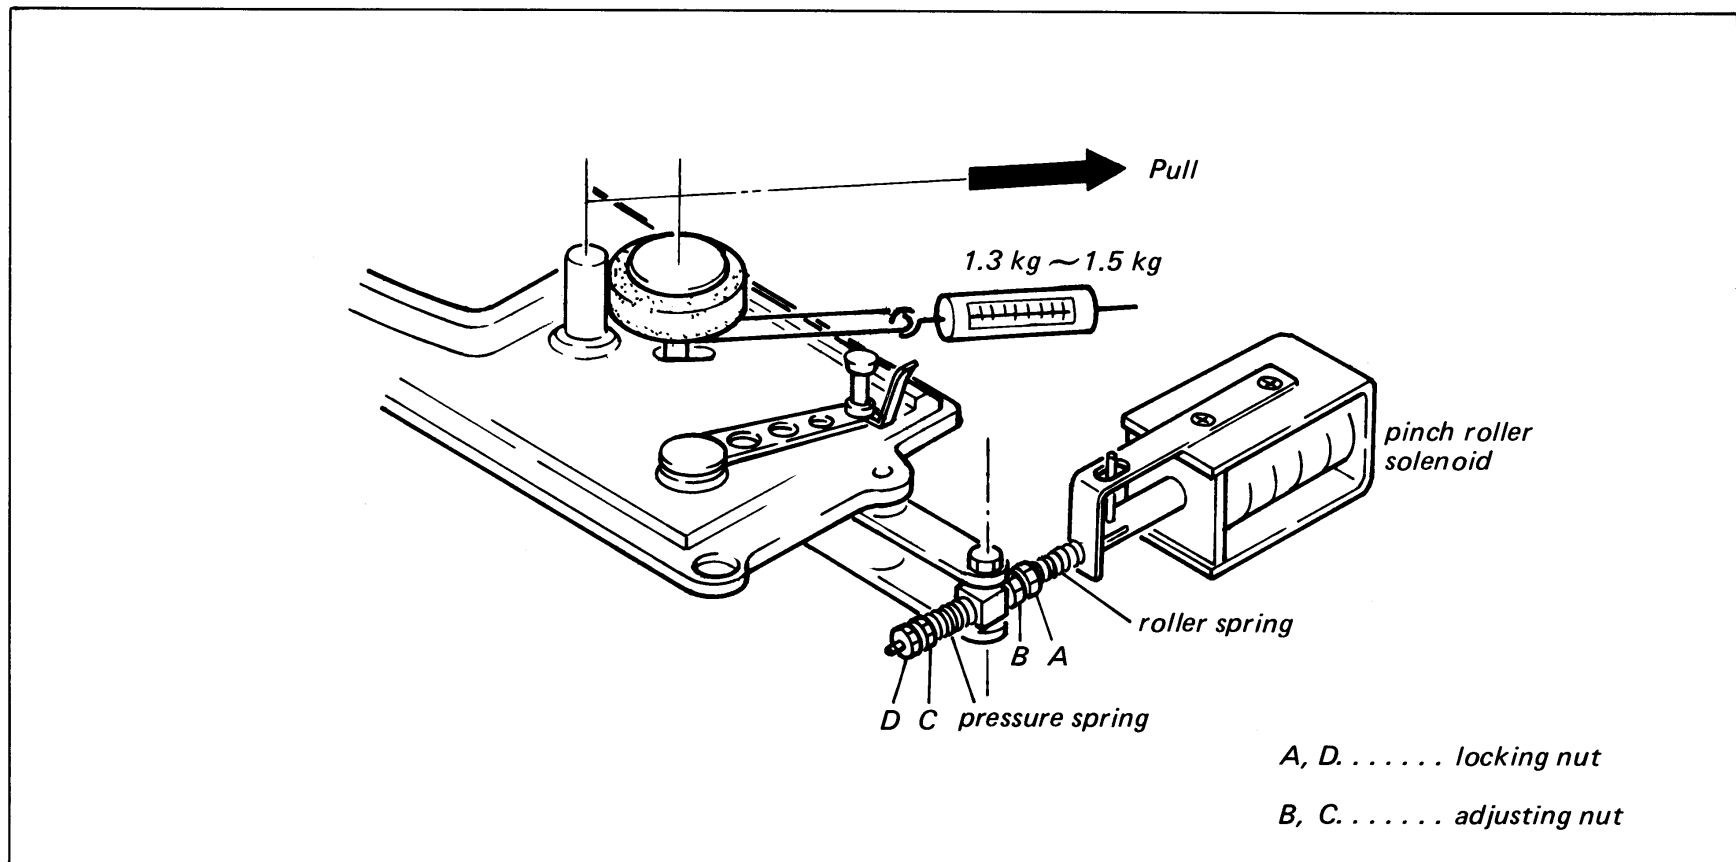

Fig. 3-4. Pinch roller pressure adjustment
3-4. Pinch Roller Pressure Adjustment (See Fig. 3-4)
- 2) Set the spring scale to the pinch roller as shown in Fig. 3-4. Push the FORWARD button "▶".
roller stops rotating at the instant and adjust the adjusting nut C (see Fig. 3-4) of the pinch roller solenoid for a spring scale reading between 1.3 and 1.5 kg.